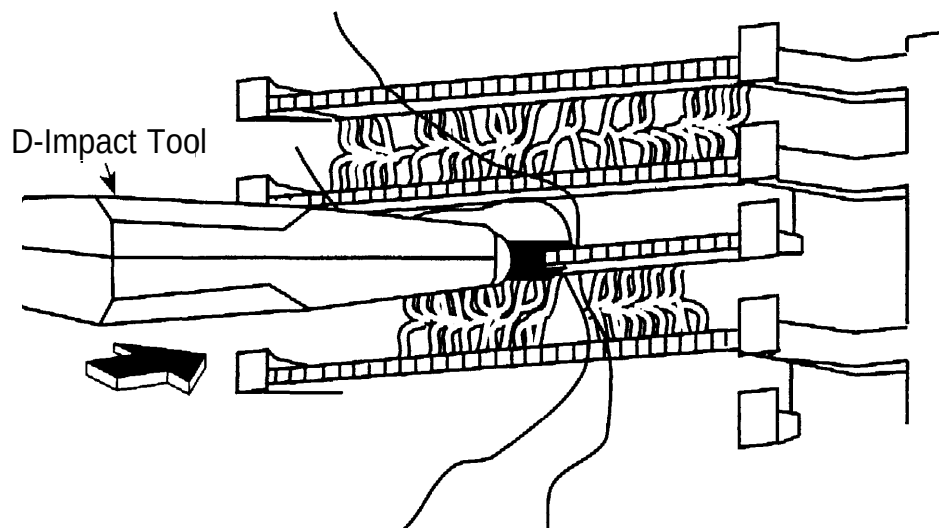

Figure 4-4. Using the D-Impact Tool to Seat the Conductors
- c Use the D-impact tool to seat the conductors. See Figure 4-4.